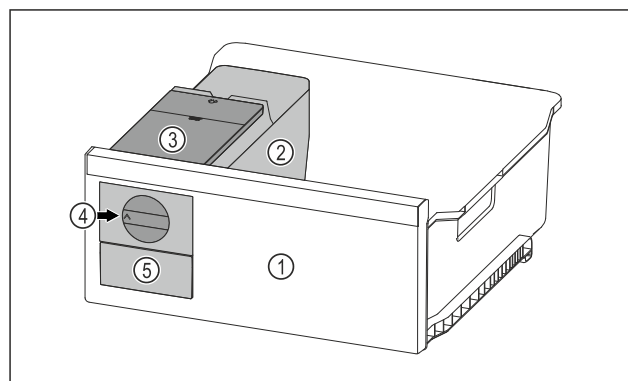

Fig. 112 Example illustration
- Turn the rotary knob Fig. 112 (4) clockwise as far as it will go.
- Ice cubes fall from the ice cube tray into the ice cube drawer Fig. 112 (5).